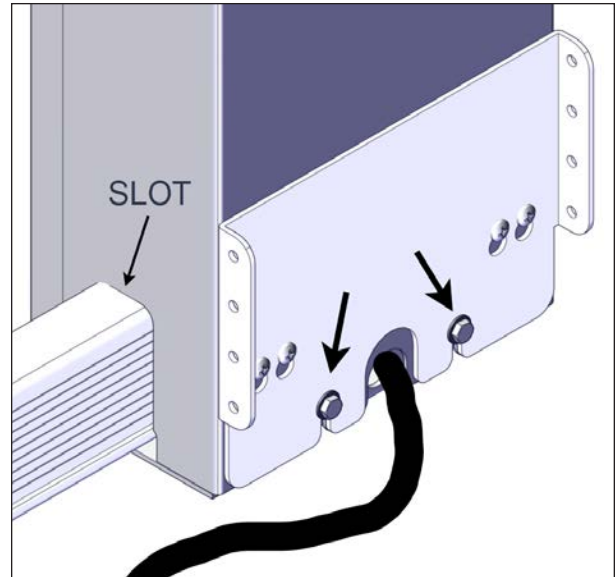

FIGURE 85: SLEEVE INSTALLATION
When sliding the sleeves over the jacks, ensure the slot at the bottom of the outer sleeve is going to slide over the U-frame that covers the drive shaft. **There are right and left sleeve models**, see Figure 85.
17. Tighten 1/4" hexagonal screws at the bottom of all the sleeve base. (7/16" (11 mm) socket wrench). Ensure that the washer is outside of the outer sleeve. This will ensure the sleeve is held correctly, see Figure 85.